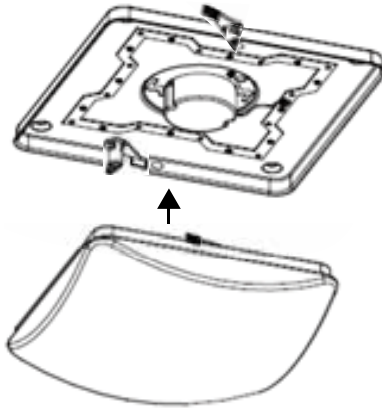

Figure 6
6. Mount the diffuser and turn the diffuser latches until they are closed (figure 6).